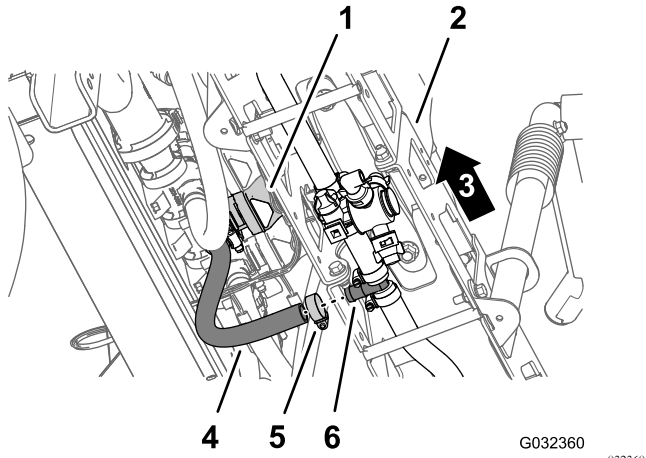

Figure 48
- Under the center boom section, remove the hose clamp that secures the supply hose for the boom section to the barbed T-fitting (Figure 48).